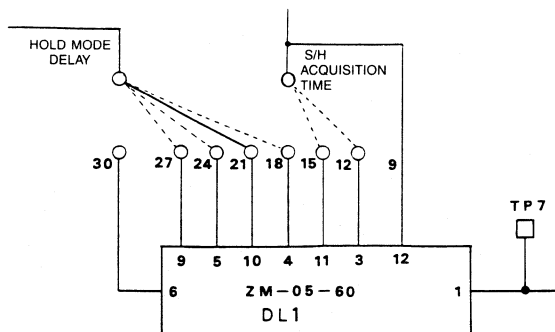

Figure 5. S/H and Delay Selection Settings
The rising edge of the START CONVERT pulse (for conversion N), changes the S/H device from the hold mode into the sample (or acquisition) mode. The acquisition mode lasts for 25 nanoseconds (factory setting) and is determined by the internal gate delays and delay line 1 (DL1). To lengthen the acquisition time, vary the setting of DL1 (see Figure 5).
Upon going into the hold mode, a delay time occurs, allowing the signal to settle at the output buffer of the S/H. This delay is approximately 37 nanoseconds, determined by the internal gate delays as well as DL1 and DL2. DL1 can be varied per Figure 5 to lengthen the duration of the hold mode.
- There are feedthrough holes labeled as "12, 15,...30" close to the DL1 delay line component and two more holes labeled as "DELAY" and "S/H" close to these holes. Refer to Figure 5 for the specific locations of these holes.